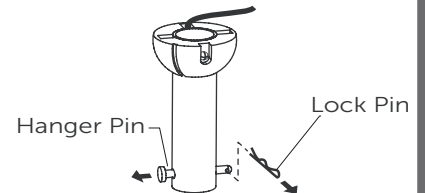

Fig. 3
3. Remove the lock pin and take off the hanger pin (Fig. 3).